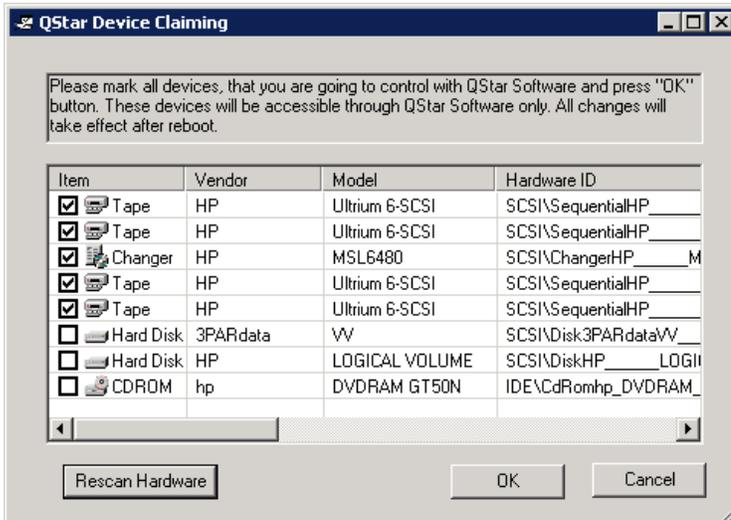

Figure 10. Selecting which devices you want to use with the QStar ASM software
12. During the installation of the QStar ASM software, a QStar Device Claiming window will pop up. Mark the device(s) that are going to be controlled by QStar ASM then select **OK**. See **figure 10** as an example.